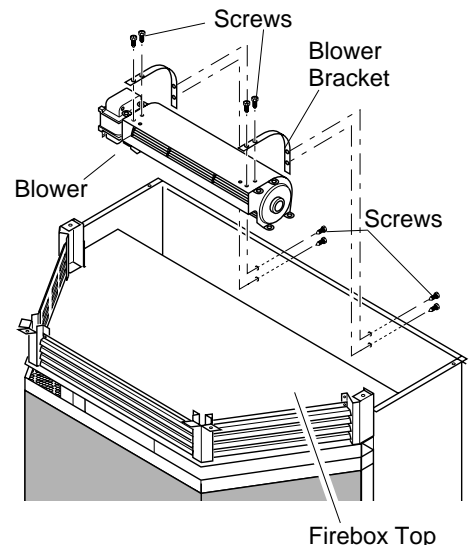

Figure 15 - Removing Blower Brackets from Stove and Attaching to Blower
7. Remove the two blower mounting brackets from the rear panel by removing two screws each (see Figure 15).
8. Attach the two mounting brackets to blower housing using four screws provided in blower kit (2 for each bracket) (see Figure 15). Tighten screws securely. Place blower assembly temporarily on top of firebox.
13. Using the four screws previously removed, mount blower assembly to stove by reattaching blower brackets to rear panel (see Figure 15, page 10). Tighten screws securely.
7. Remove the two blower mounting brackets from the rear panel by removing two screws each (see Figure 15, page 10).
8. Attach the two mounting brackets to blower housing using four screws provided in blower kit (2 for each bracket) (see Figure 15, page 10). Tighten screws securely. Place blower assembly temporarily on top of firebox.
21. Using the four screws previously removed, mount blower assembly to stove by reattaching blower brackets to rear panel (see Figure 15, page 10). Tighten screws securely.